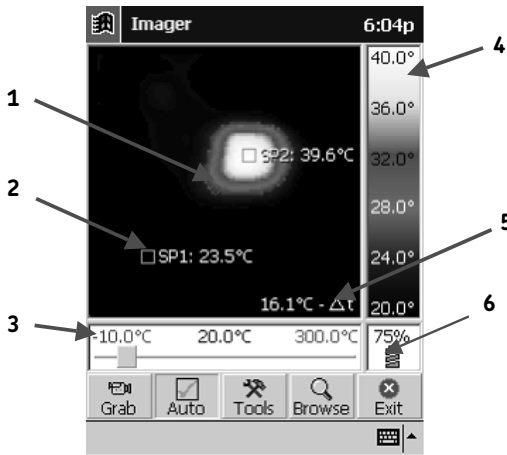

Figure 4: Screenshot of SKF TMTI 300 Imager 'Pocket PC' Software
The laser pointer illuminates the area of the scene that is viewed by the "default" temperature measurement pixel. This is the central point on the 'Pocket PC' display, which is indicated by a red circle in **Figures 4**.
8. 2nd Element – The user can select whether to have the second (SP2) temperature cursor displayed on the screen. see Figure 4.
- c. Kelvin (K)